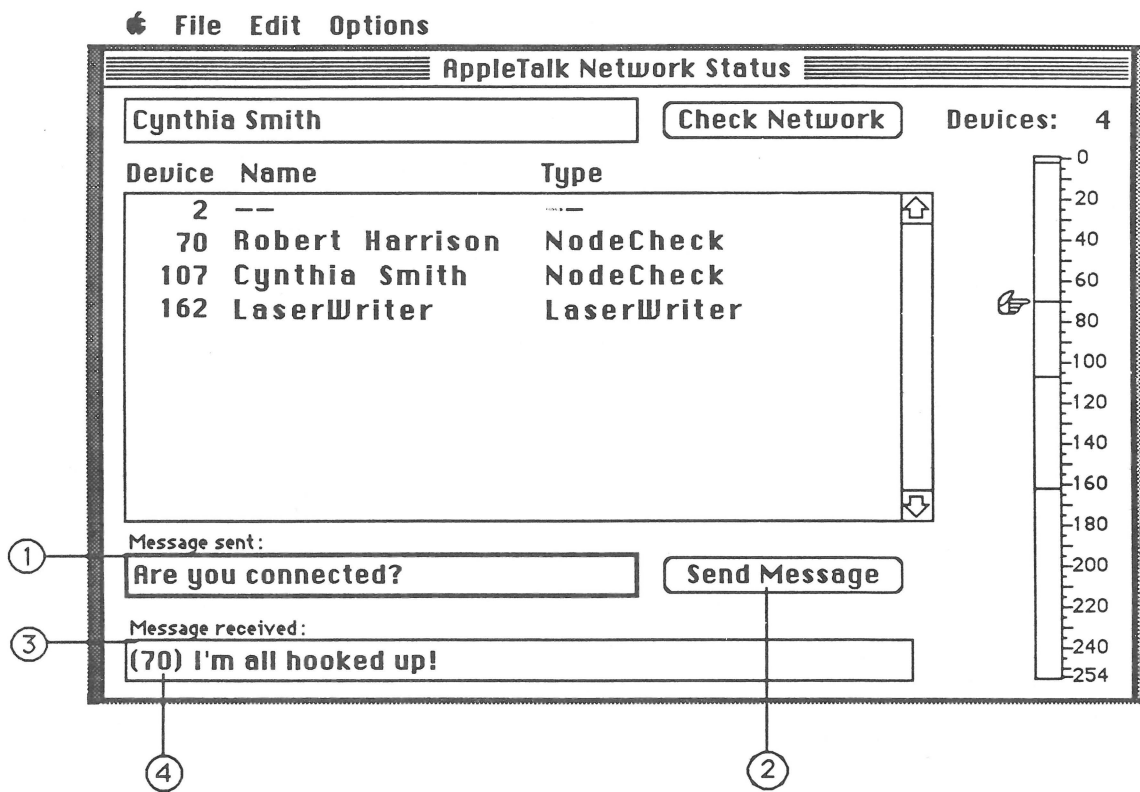

FIGURE 7
You can use the **Message Sent** box (Figure 7, #1) to enter any message you wish to send to other devices on the network:
2. When you have finished typing your message, click on **Send Message** (Figure 7, #2). (If the **Message Sent** box is highlighted, pressing <Return> will also send the message.)
Messages are received in the **Message Received** box (Figure 7, #3). Each message is preceded by the device number of the sender (Figure 7, #4).